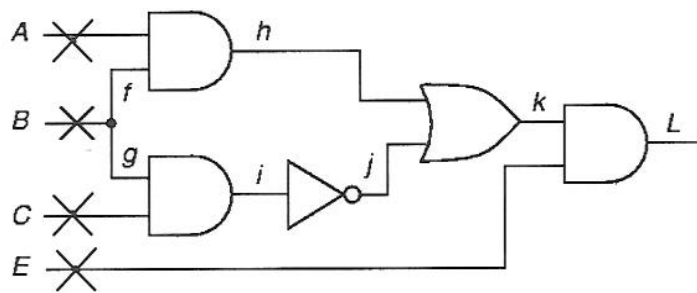

Figure 6.1
- b) Derive the minimum set of test vectors for detecting stuck-at faults in the inputs of the circuit shown in Figure 6.1. [10]
- b) Derive the minimum set of test vectors for detecting stuck-at faults in the inputs of the circuit shown in Figure 6.1.